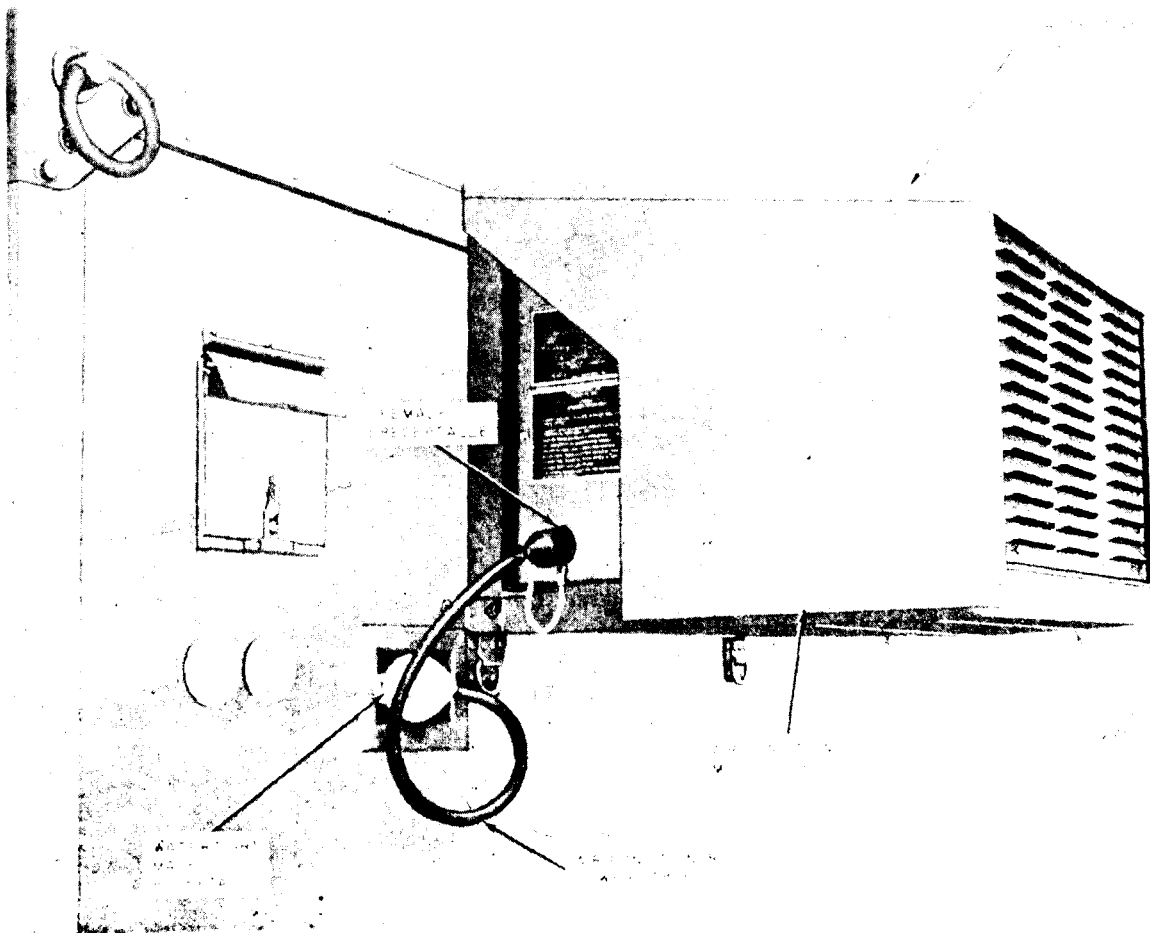

Figure 1-10. Airconditioner, model F-9000-2.
d. *Air Conditioner, Model F-9000-2, (FSN 4120-679-2669) (fig. 1-10).* The Model F-